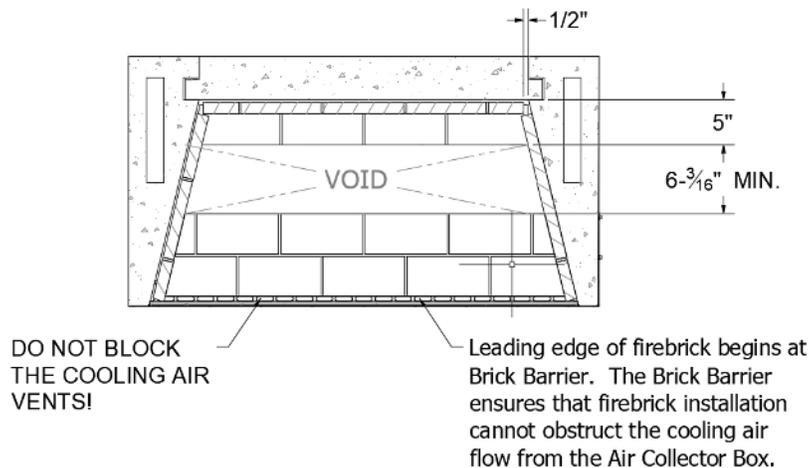

FIGURE 47
- 2) When used in the Maximus Linear Fireplace with Glass Front, the ISOFLAMES Linear Burner is designed to be recessed into the 2-1/2” deep firebrick cavity constructed as detailed in the Firebrick Installation portion of this manual (pgs. 51-52/ Figure 47 & 48).